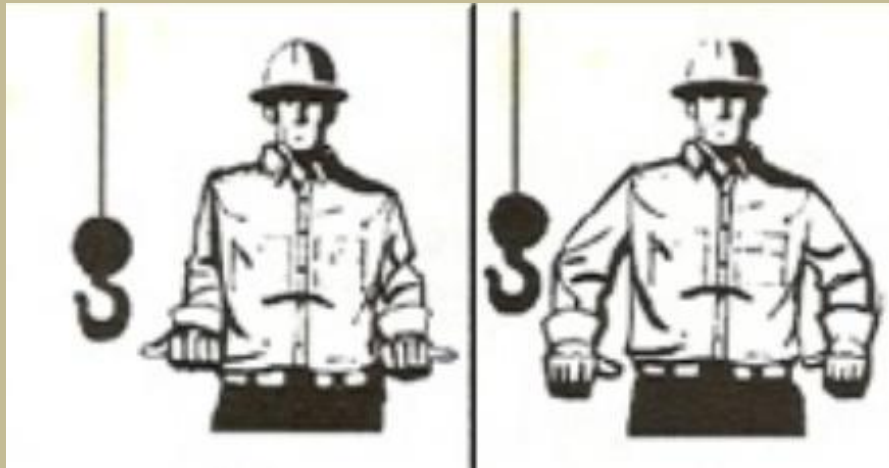

Figure 5 Extend boom and retract boom
1. Cranes which are equipped with an extendible boom can be signaled to lengthen or shorten the boom. You do this by holding your fists in front of your body and pointing in or out with your thumbs (Figure 5).